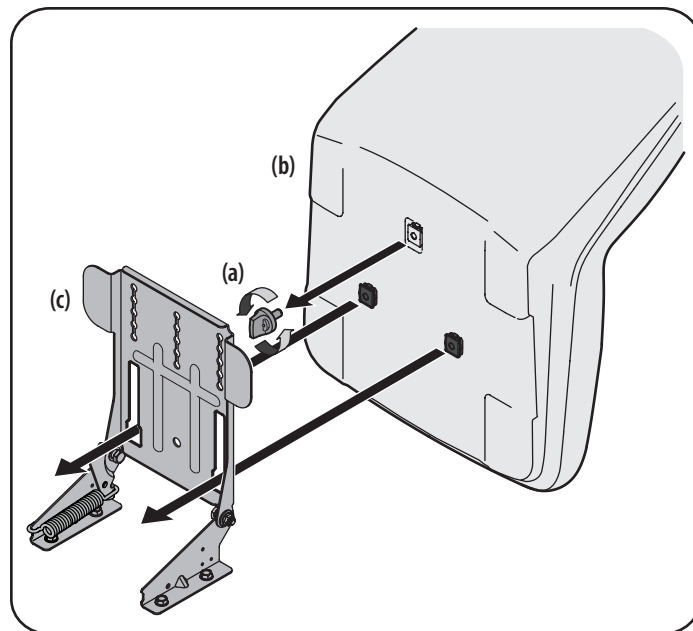

Figure 5
1. Remove the seat adjustment knob (a) from the bottom of the seat (b). See Figure 5.
2. Align the seat (b) over the seat pivot bracket (c) as shown in Figure 5 and fit the seat (b) onto the seat pivot bracket (c) inserting the two tabs on the seat (b) bottom into the slots on the seat pivot bracket (c).